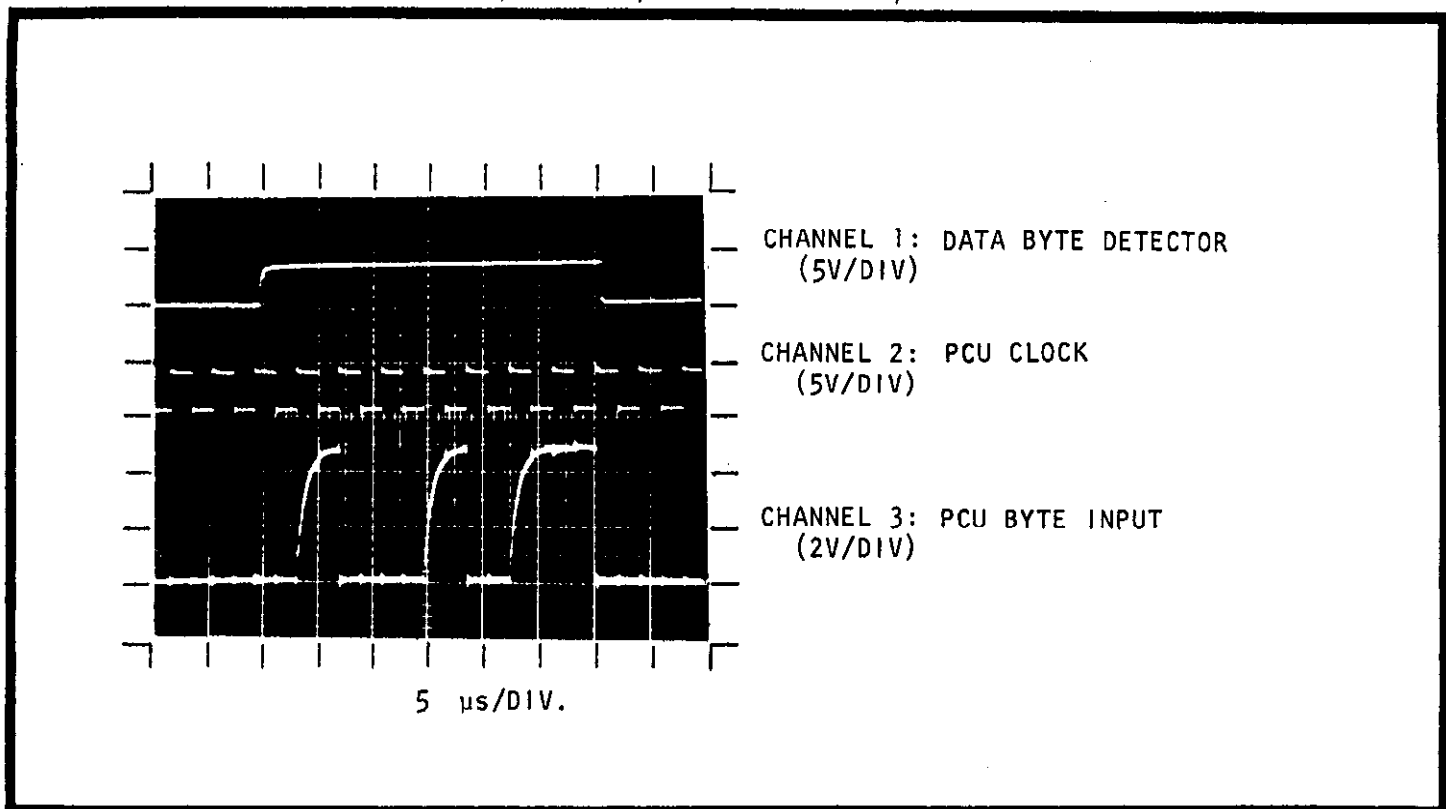

FIGURE 25. Trace For Test #22.
6. Verify traces shown in Figure 25.